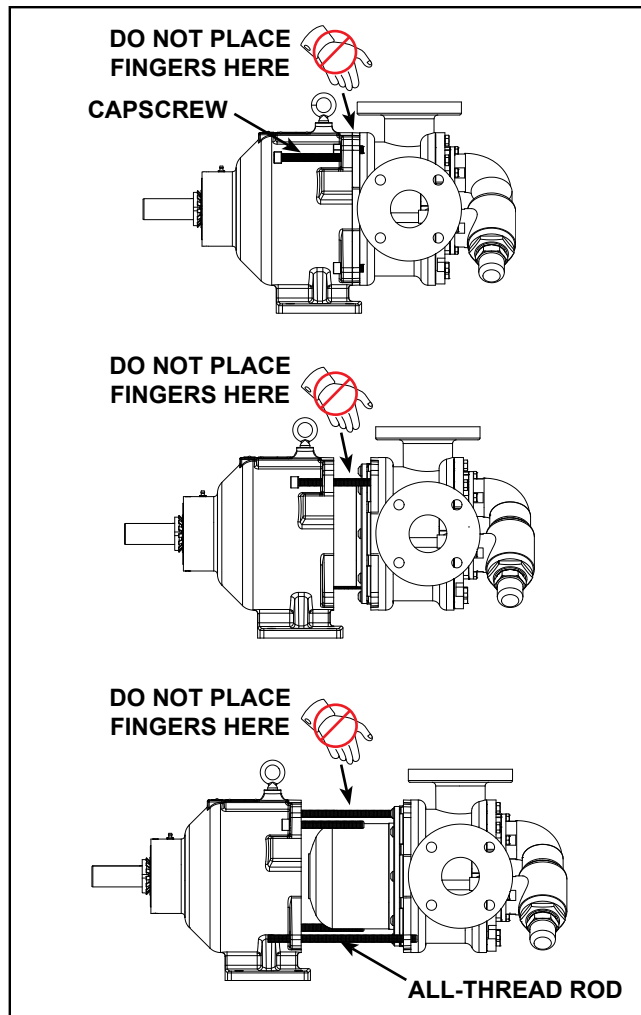

FIGURE 7
3. Mark the head (40) and casing (31) before disassembly to insure proper reassembly.
4. To inspect the head and pin assembly (39 and 40) and idler and bushing assembly (37 and 38), remove the head capscrews (43).
5. Remove the head from the pump. If the casing was not drained in Step 1, be careful of the liquid draining out between the head and casing. Do not allow the idler to fall from the idler pin. Tilt the top of the pump head back during removal to prevent this. Avoid damaging the head shim set (63) since all shims are required to maintain end clearance.
7. Remove the four socket head capscrews (28) securing the pump to the bracket. Support the pump with an overhead hoist, if possible.
8. Use the jackscrews (14) in the bracket to separate the inner magnet (57) from the outer magnet (58), see sequence in **Figure 7**. To keep the pump and bracket assemblies properly aligned and for additional safety, it is recommended to use 2 lengths of all-thread rod (6-8”) threaded into diagonal capscrew locations in the adaptor plate and slide through the corresponding holes in the bracket.
9. Visually inspect the outer magnets from the end of the bracket. If removal is necessary, separate the bracket from the motor. Remove the locknut (1), lockwasher (2) and outer bearing spacer collar (4) from the shaft. Slide the outer magnet assembly out of the bracket. Inspect the magnet assembly for damage or wear; replace if needed. If further disassembly of the bracket is required, see **“Disassembly / Assembly of Bracket Bearings”**, page 7.
10. Remove the socket head capscrews (54) from the canister (59). If the canister was not drained in Step 1, it will contain liquid. Use care when removing the canister from the pump by pulling it straight off. Inspect the canister bushing (64) for wear. If the canister bushing needs to be replaced, see **“Installation of Bushings”** on page 8.
11. Do not remove the O-ring from the plate adaptor (67) / canister unless it is bad, especially if it is PTFE (derivative) encapsulated. If a new O-ring is required, See **“Pump Assembly”** on page 8.